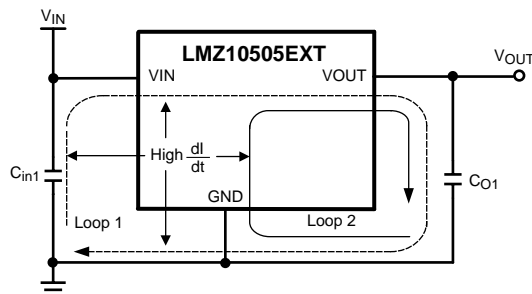

Figure 18. High Current Loops
From an EMI reduction standpoint, it is imperative to minimize the high  $di/dt$  current paths. The high current that does not overlap contains high  $di/dt$ , see Figure 18. Therefore physically place input capacitor ( $C_{in1}$ ) as close as possible to the LMZ10505EXT VIN pin and GND exposed pad to avoid observable high frequency noise on the output pin. This will minimize the high  $di/dt$  area and reduce radiated EMI. Additionally, grounding for both the input and output capacitor should consist of a localized top side plane that connects to the GND exposed pad (EP).